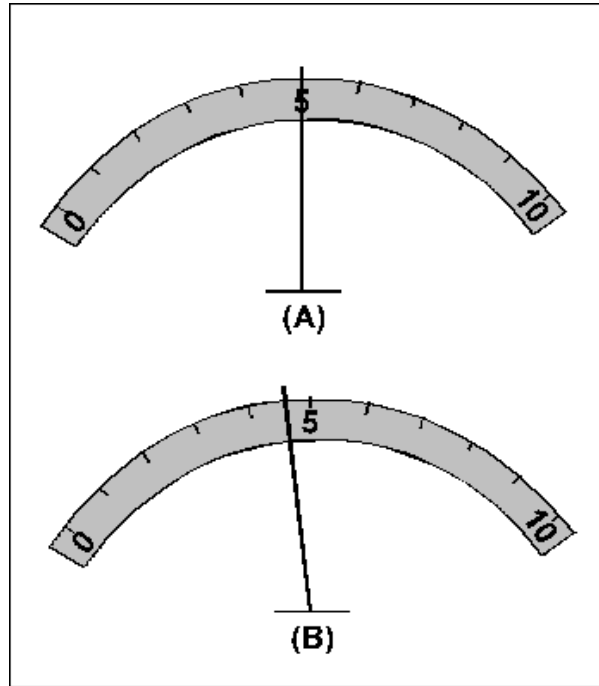
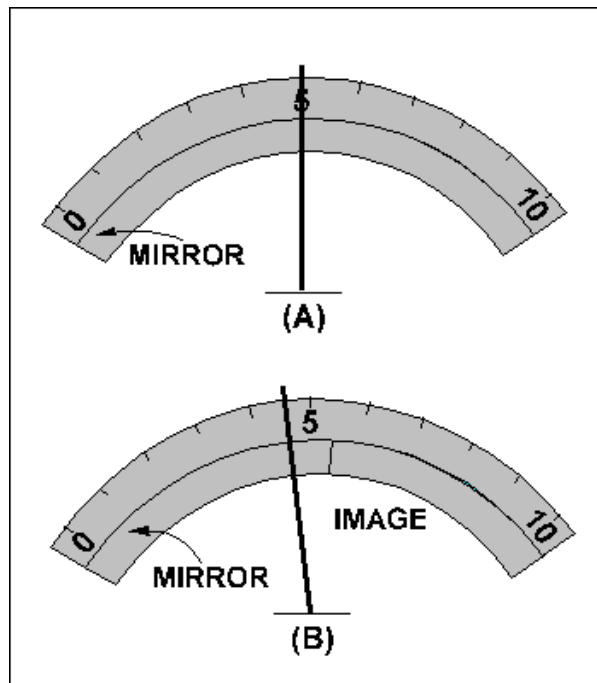

Figure 1-41.—A parallax error in a meter reading.
Figure 1-42.—A parallax error on a meter with a mirrored scale.
Parallax can be a problem when you are reading a meter. Since the pointer is slightly above the scale (to allow the pointer to move freely), you must look straight at the pointer to have a correct meter reading. In other words, you must be in line with the pointer and the scale. Figure 1-41 shows the effect of parallax error.
Figure 1-41 (A) shows a meter viewed correctly. The meter reading is 5 units. Figure 1-41(B) shows the same meter as it would appear if you were to look at it from the right. The correct reading (5) appears to the right of the pointer because of parallax.
The mirror on the scale of a meter, shown in figure 1-39, helps get rid of parallax error. If there is any parallax, you will be able to see the image of the pointer in the mirror. If you are looking at the meter correctly (no parallax error) you will not be able to see the image of the pointer in the mirror because the image will be directly behind the pointer. Figure 1-42 shows how a mirror added to the meter in figure 1-41 shows parallax error. Figure 1-42(A) is a meter with an indication of 5 units. There is no parallax error in this reading and no image of the pointer is seen in the mirror. Figure 1-42(B) shows the same meter as viewed from the right. The parallax error is shown and the image of the pointer is shown in the mirror.